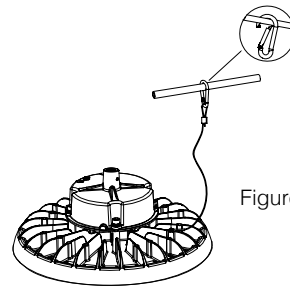

Figure 13
3. Loop the safety cable around a structural member of the building providing a secondary support for the mounted fixture. (figure 13)
4. Loop the safety cable around structural member (figure 13)
3. Loop the safety cable around a structural member (figure 13)
- 1). Loop the safety cable around a structural member of the building (figure 13)